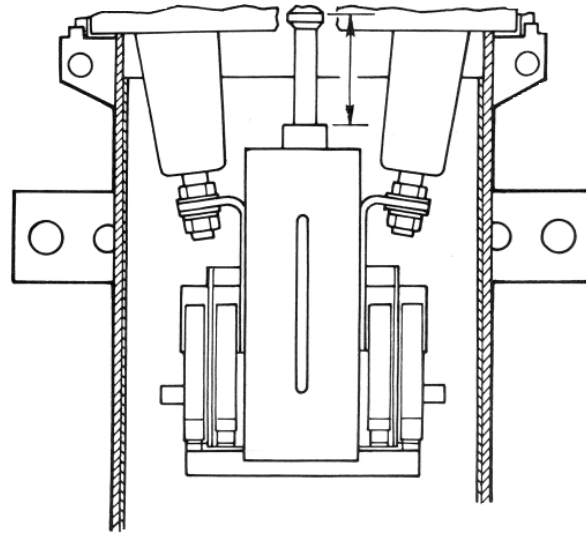

Figure 16.
- A. With the switch mechanism removed from the tank and with the contacts in the closed position, measure from the top of the contact rod piston down to the support housing as shown in Figure 16.